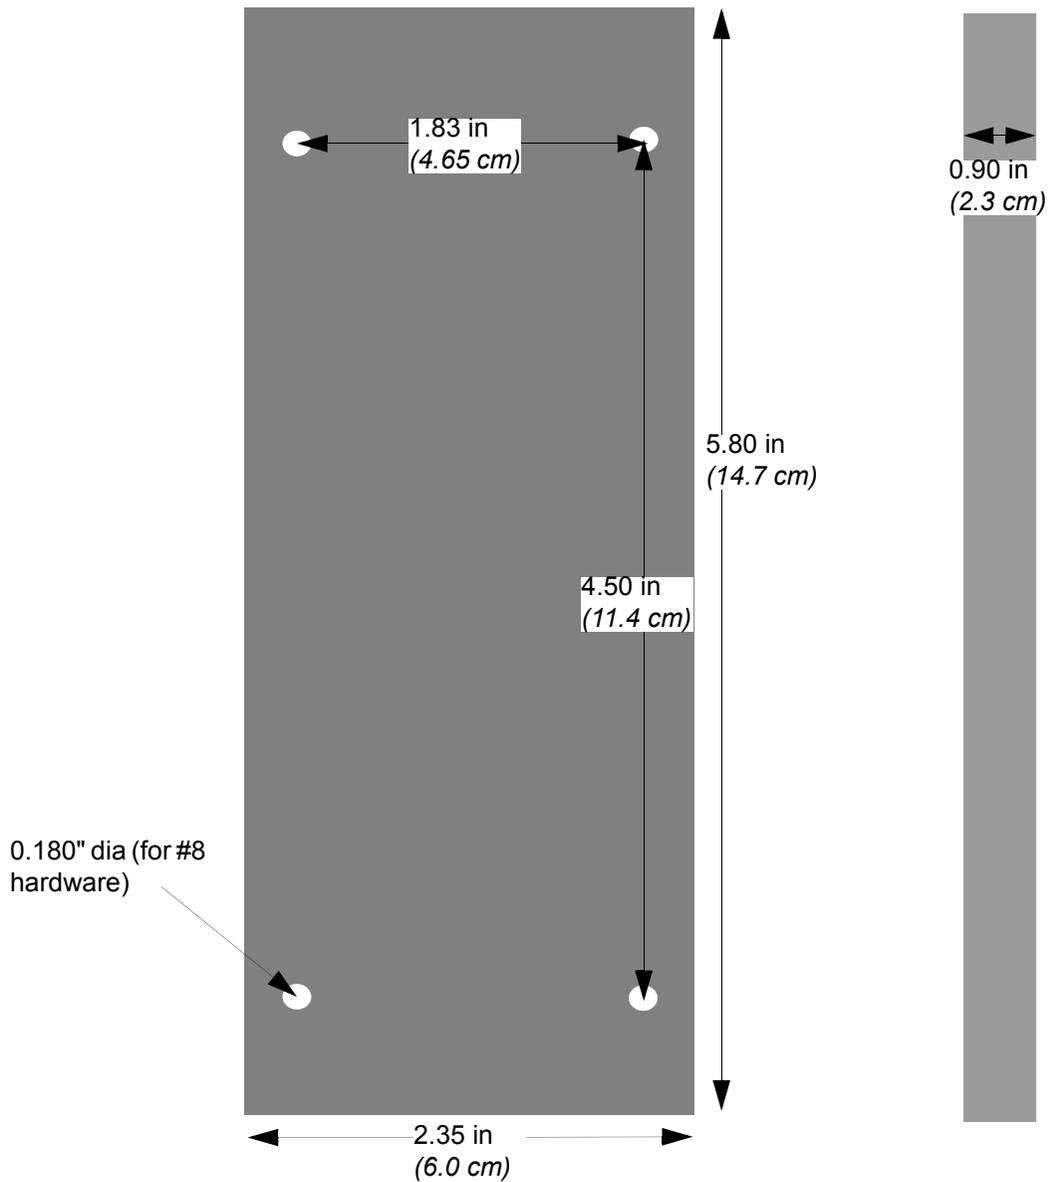

Figure 8: VIU Mounting Template
Figure 8 shows mounting dimensions for the controller. For best results, trace the outline of the actual controller on the mounting surface using the controller itself as the template.
1. See *Figure 8 on page 21*, then drill four holes at intended VIU location, at least 3 feet from the fuel tank inlet.